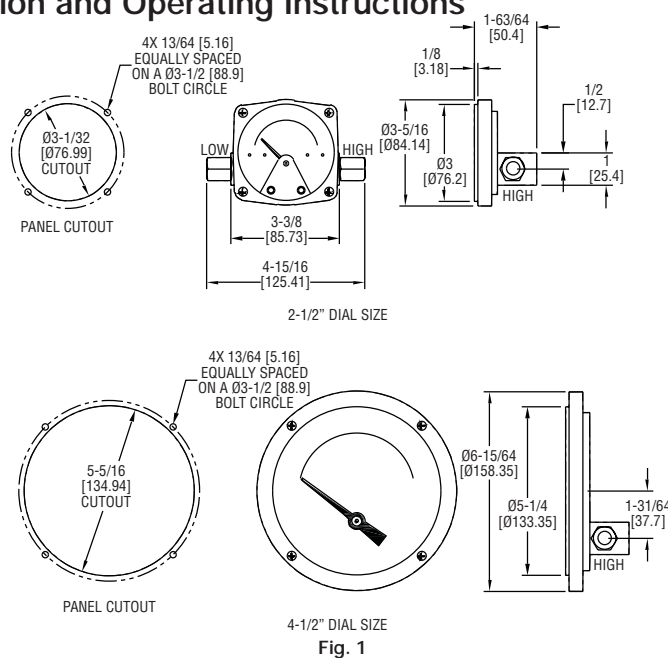

Fig. 1
3. PANEL MOUNTING: Gages with 2-1/2" dials can only be mounted through the rear of the panel. Make the proper panel cutout as indicated in (Fig. 1). Remove the (4) bezel screws. Insert the gage front through the rear of the panel and reinstall the bezel screws through the front of the panel and into the gage bezel. Tighten the screws securely, alternating in a diagonal pattern.
Gages with 4-1/2" dial should be mounted from the front of the panel. Make the cutout as indicated in (Fig. 1). Insert the (4) panel mounting studs, finger tight, into